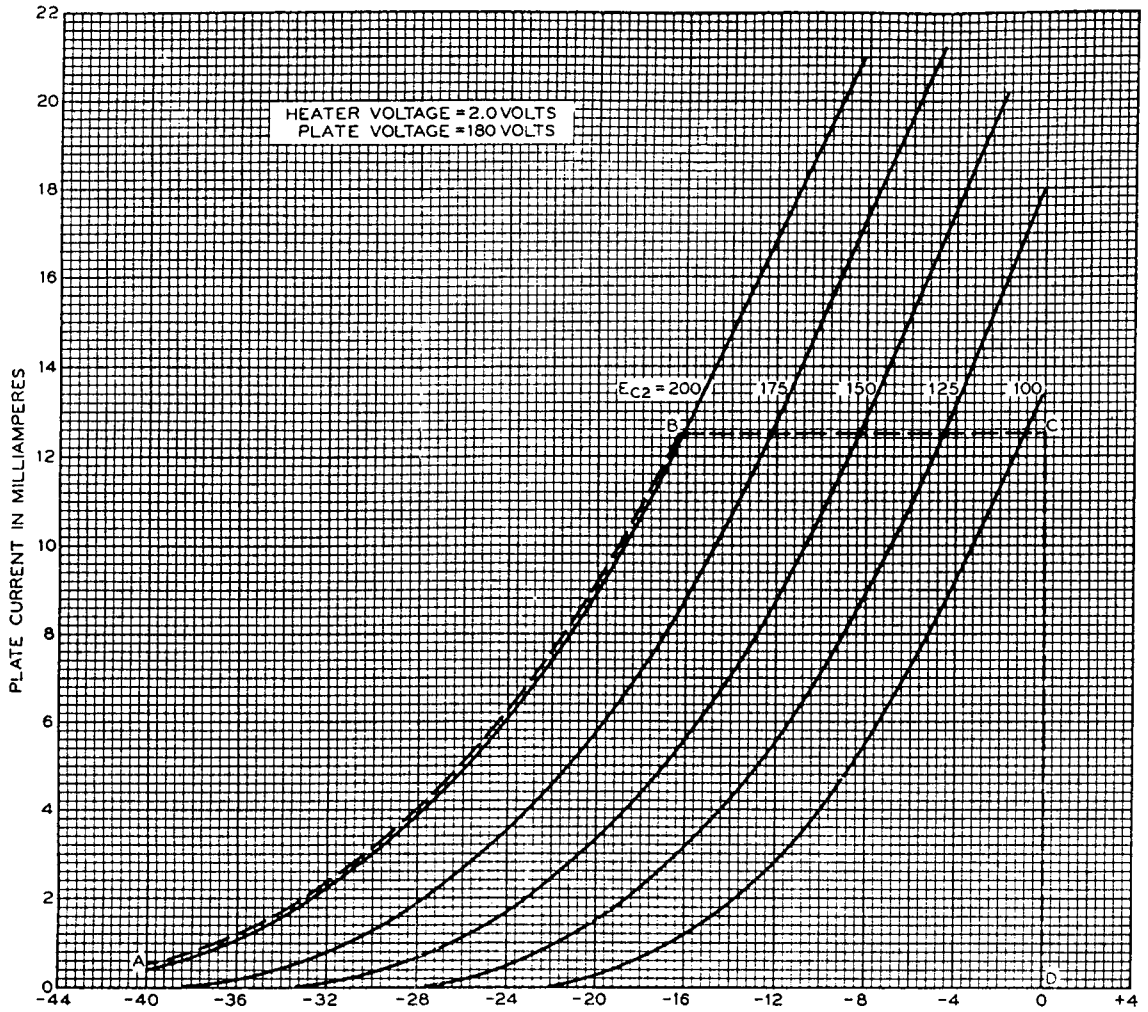
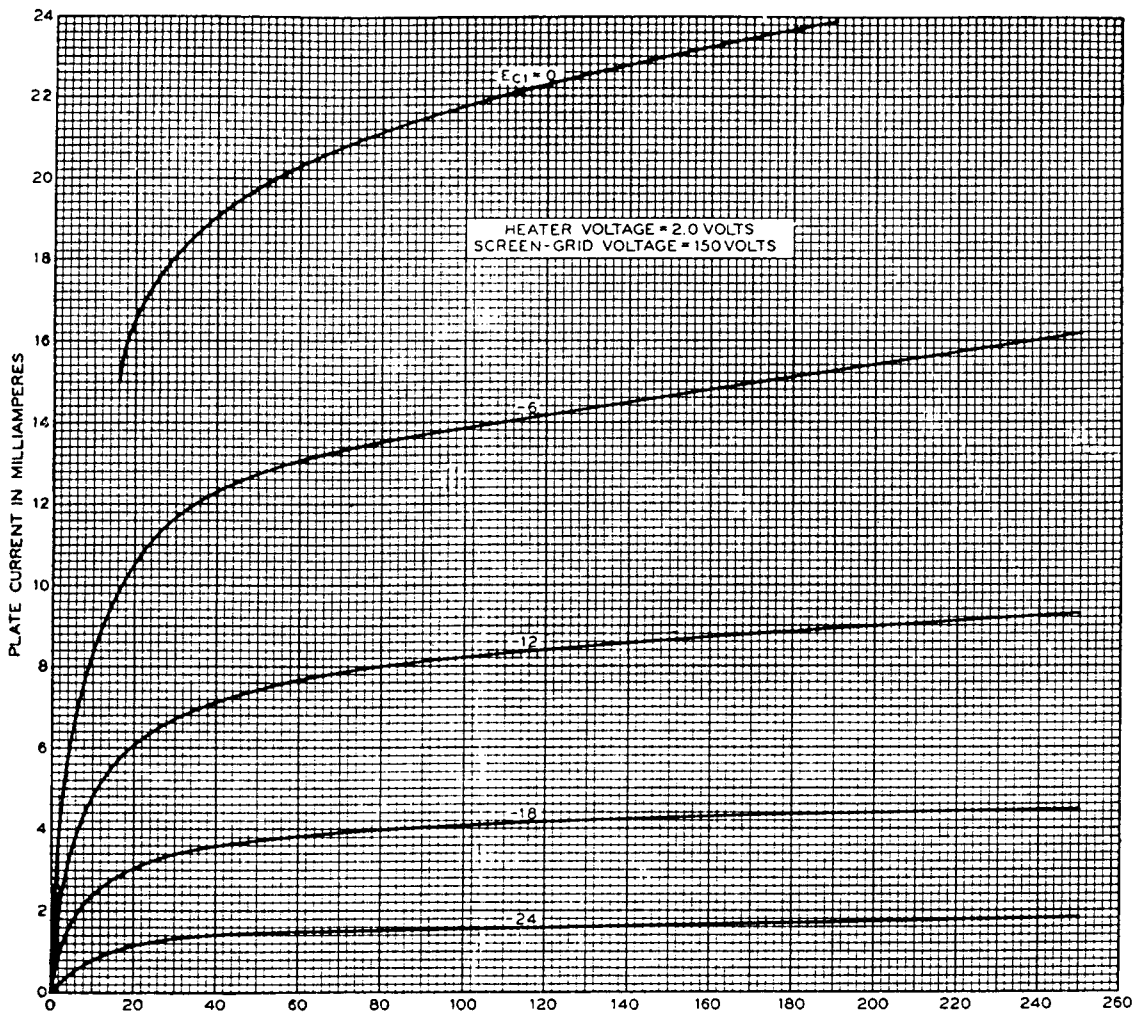
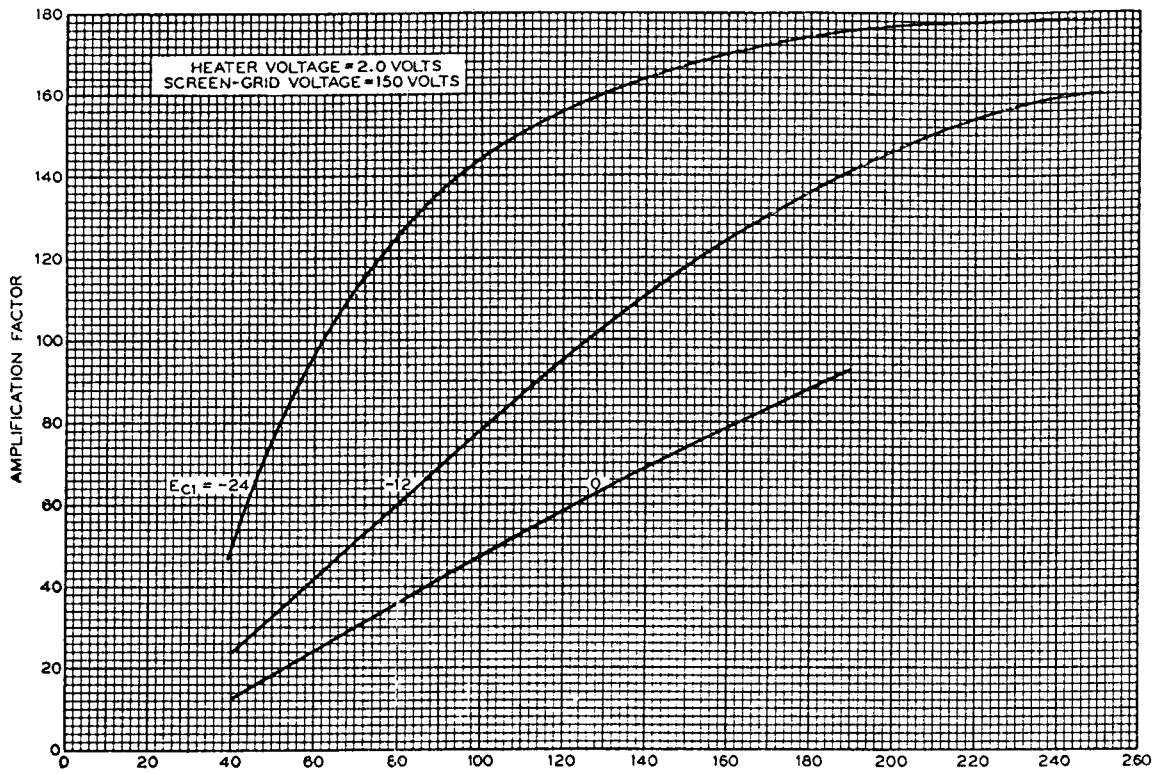

FIG. 3
FIG. 5
FIG. 7
**Characteristics**—Plate-current and screen-grid current characteristics for a typical 285A tube are shown in Figures 3 and 4, respectively, as functions of control-grid voltage for a plate voltage of 180 volts and several values of screen-grid voltage. Plate-current and screen-grid current characteristics are shown as functions of plate voltage in Figures 5 and 6, respectively, for a screen-grid voltage of 150 volts. Corresponding amplification-factor, plate-resistance, and transconductance characteristics are shown in Figures 7, 8 and 9, respectively.
**Operating Conditions and Power Output**—Permissible operating screen-grid and control-grid voltages are included within the area, ABCD, in Figure 3. Values of amplification factor, plate resistance, and transconductance, and typical performance data are given in the table below for recommended and maximum operating conditions represented by selected points within this area. Recommended conditions or others of no greater severity should be selected in preference to maximum conditions wherever possible. The life of the tube at maximum operating conditions may be shorter than at the recommended conditions. The performance data include the fundamental power output in watts and the maximum level of any harmonic in db below the fundamental, for the indicated values of load resistance and input voltage. The input has been so chosen that its peak value is numerically equal to the control-grid bias, and the load resistance has been so chosen that for the range of inputs from zero to this maximum value, the maximum levels of the second and third harmonics are equal.